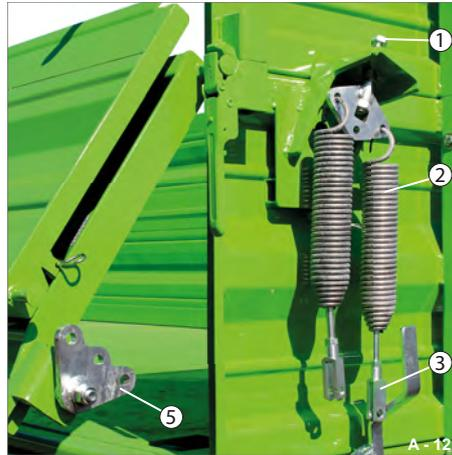

Fig. 122 Lifting springs, unhooked
- ▶ Loosen the clamping bolt (Fig. 122/1) with the hexagon key. The dual tension springs slacken.
- ▶ Twist the socket pins (Fig. 122/4) out of the fork heads (Fig. 122/3) and the holder (Fig. 122/5).
- ▶ Position the holder (Fig. 122/5) in the fork heads (Fig. 122/3) - in the outer bore holes.
- ▶ Stick the socket pins (Fig. 122/4) through the fork heads and holder and tighten them.
- ▶ Tighten the clamping bolt (Fig. 122/1). The lifting springs are tensioned.